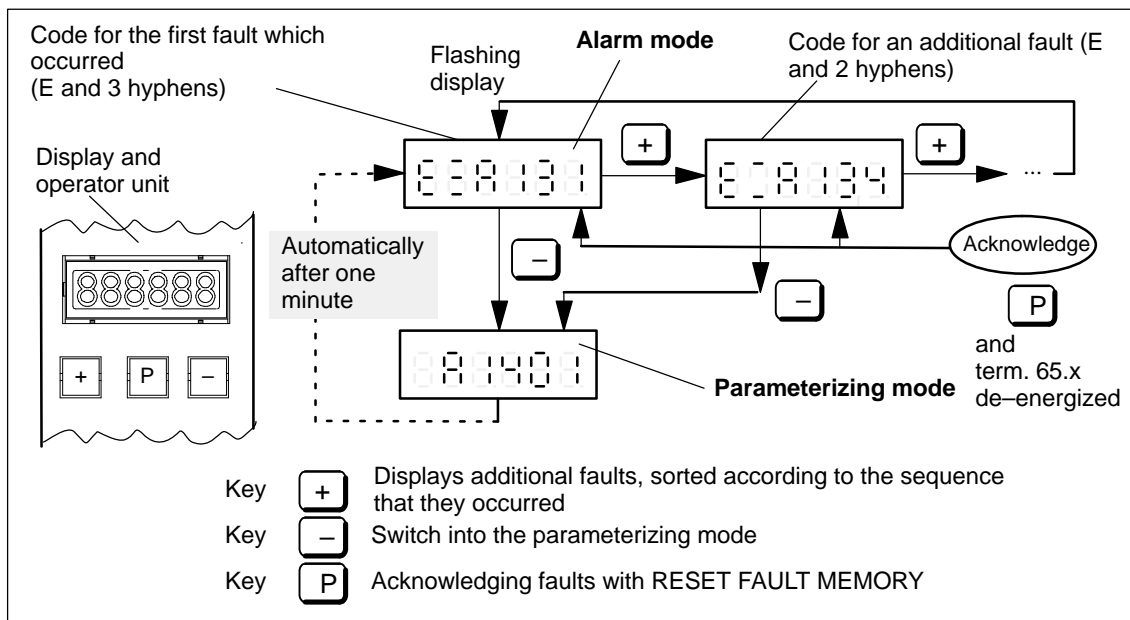

Fig. 7-2 Handling several faults
2. This is what it looks like if several faults have occurred (refer to Fig. 7-2).